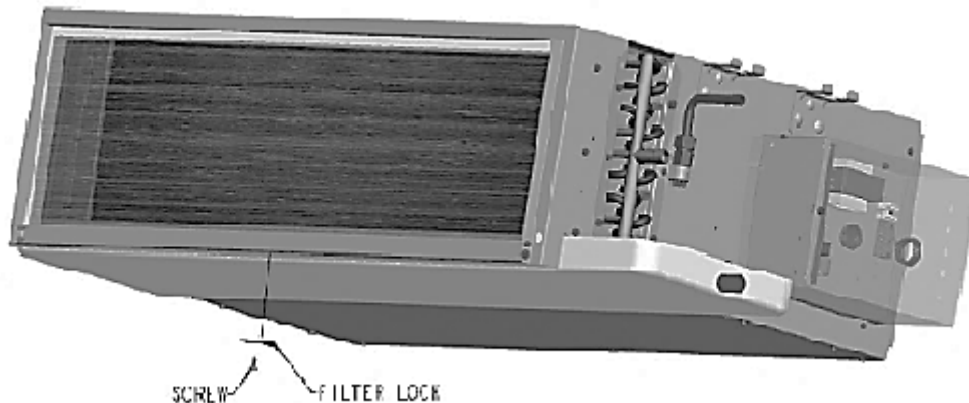

Fig. 8 Filter Access
3. Set filter on end so that water drains out through slots in frame. Allow filter to dry thoroughly. See Fig.8 for filter access.